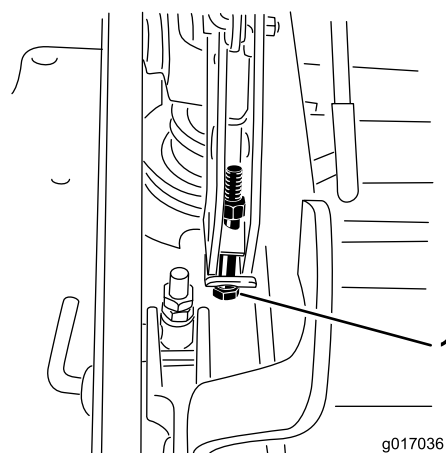

Figure 76
13. If the deck is too low, tighten the single point adjustment bolt by rotating it clockwise. If the deck is too high, loosen the single point adjustment bolt by rotating it counterclockwise (Figure 76).